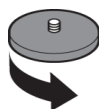

Fig.43
- 2- Manually remove side or central filters or by unscrewing the ferrule located on the top rounded filter inside the tank. (Fig.43)